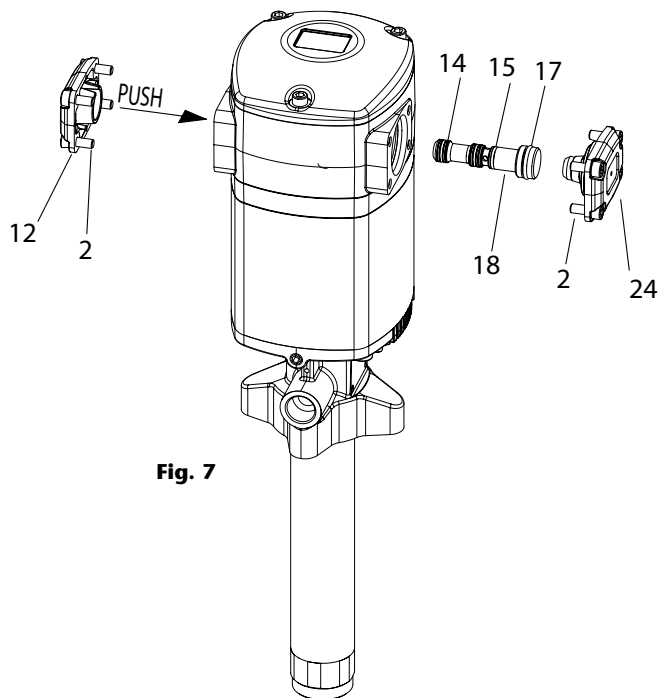

Fig. 7
1. Unscrew the 4 bolts (2) from the cover (24) and remove it.
2. Unscrew the 4 bolts (2) from the cover (12) and remove it.
3. Gently strike the spool (18) with a plastic tool by its minor diameter side (see fig. 7), through the motor, and remove the spool (18).
4. Replace the seals 4x14, 15 and 17 with new ones or replace the whole spool (18) with its seals factory installed (kit 539505). This is strongly recommended in order to ensure the correct assembly of the seals.